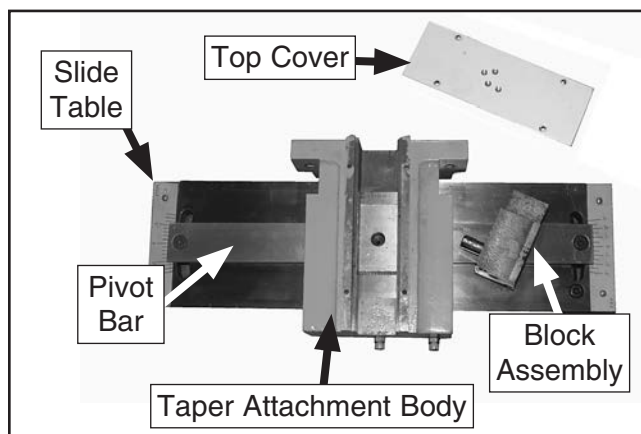

Figure 11. Top cover and block assembly removed from taper attachment body.
12. Remove the top cover from the taper attachment body (see **Figure 11**), then remove the block assembly.